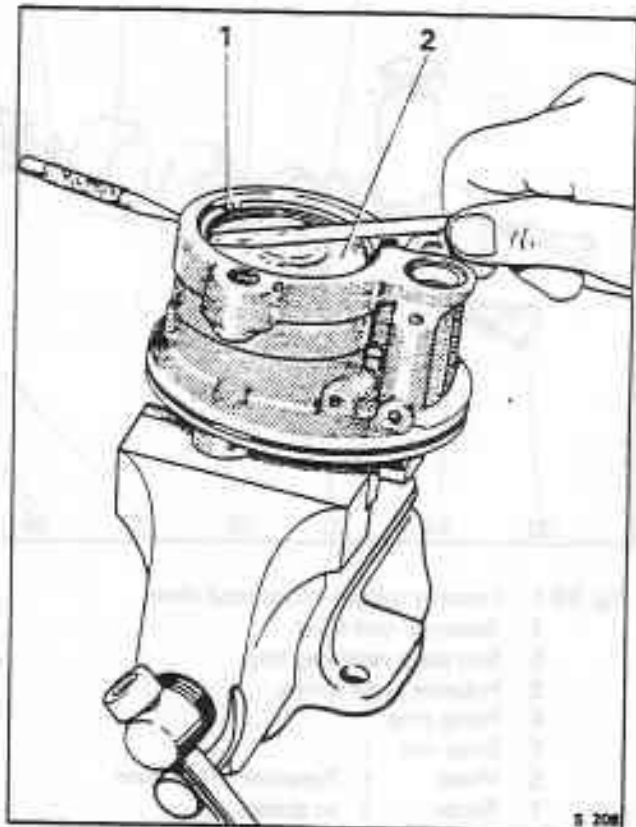

Fig. N2-4 End plate removal
10. Using a screwdriver, lever out the retaining ring (see fig. N2-4). Withdraw the centre punch.